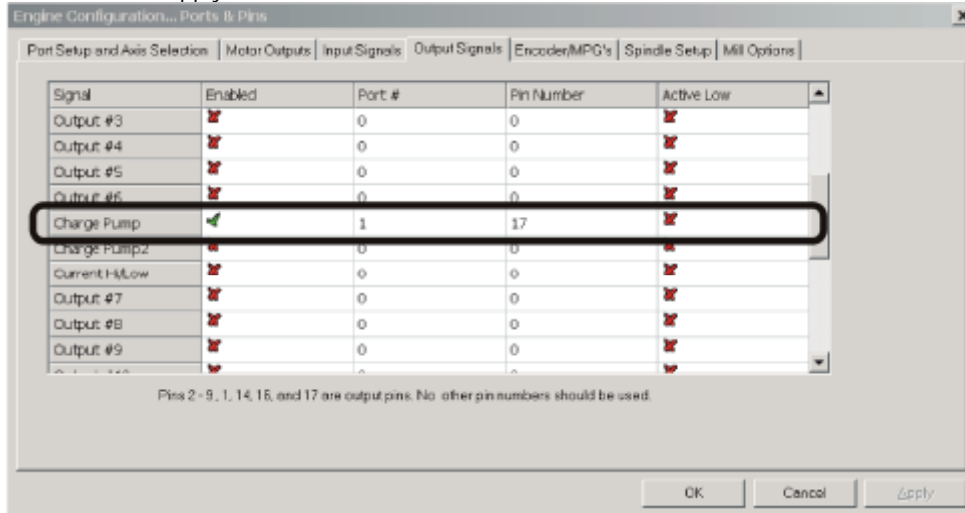

Figure 2 – Mach3 Charge Pump Configuration
- (1) Go to the "Config", "Ports and Pins" menu. Click on the "Output Signals" tab and scroll down until you see an entry labeled "Charge Pump". Verify that the "Charge Pump" line as follows:
- See Figure 2